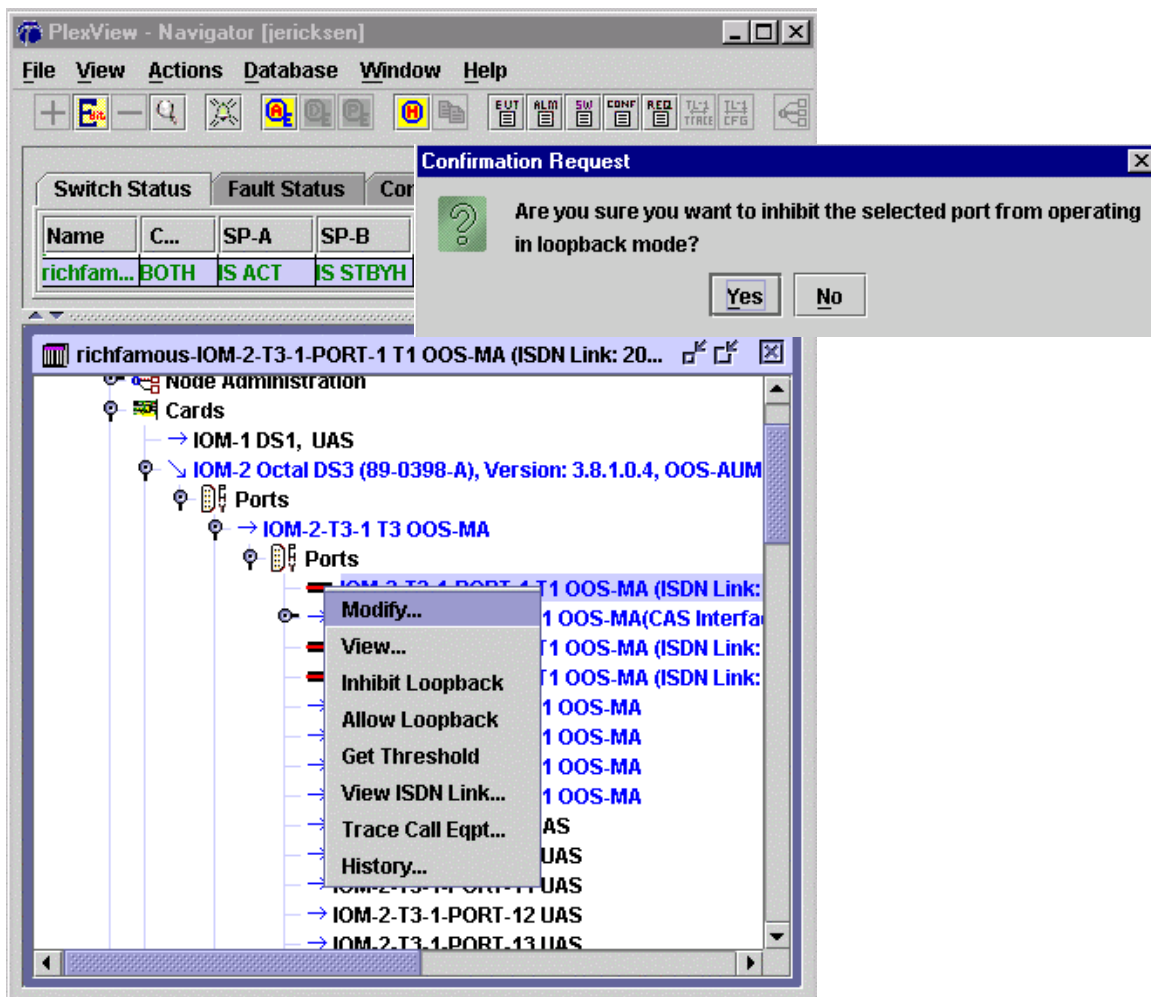

Figure 5. Inhibiting T1 Loopbacks
12. To prevent remote T1 loopbacks, double-click the switch to select it for the main panel and then right-click the switch name. Click *Cards*, desired *IOM* and *Ports*. If the IOM is a DS3 IOM, then click *DS3 port* and *Ports*. Right-click the desired port and select *Inhibit Loopback*. Click *Yes* in displayed frame to inhibit loopbacks. See Figure 5.